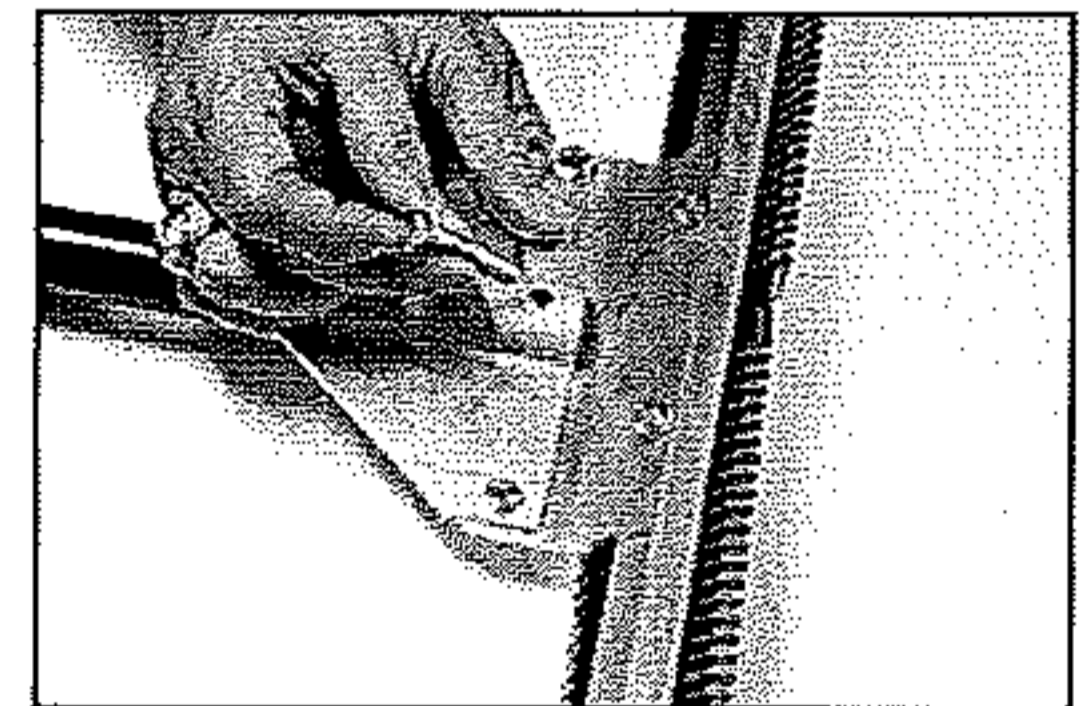

Fig 7
1. Slide the label end of the handle (label facing up) (G) over the center hole on the adapter plate (C) and align holes.
2. Position 1 gusset brace (F) on the bottom of the handle (G) and the other gusset brace (F) on top of the handle (figure 7).
3. Insert 2 long bolts (H) through the top gusset brace (F), the handle (G), and the bottom gusset brace (F).
4. Insert 2 short bolts (D) through the remaining holes passing through the gusset brace (F) and adapter plate (C).
5. Place loc nuts (E) on bolts and tighten using two 7/16” wrenches.